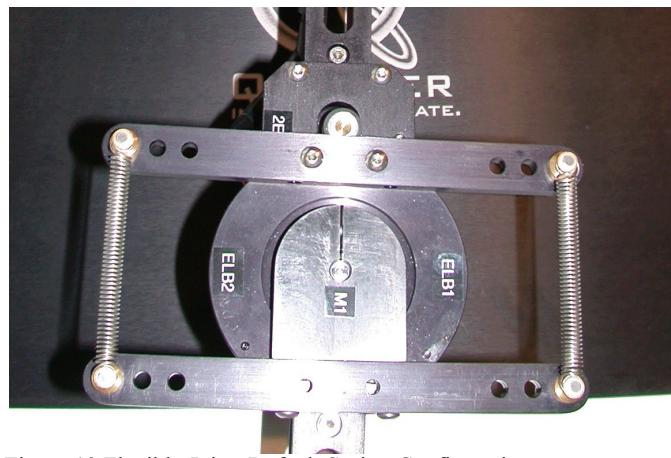

Figure 12 Flexible Joint: Default Spring Configuration
The 2DSFJ robot is composed of two identical flexible joints. One of them is depicted in Figure 12.
The two springs of the flexible joint as illustrated in Figure 12 are set up in their default configuration. Both extension springs are mounted on the outer holes of the two opposed support bars of the flexible joint.
Step 1. For each of the two flexible joints, position the four spring anchor mechanisms into the desired mounting holes located on the support bars. Do so by using the anchor thumbscrews. As an example, this is illustrated in Figure 12.